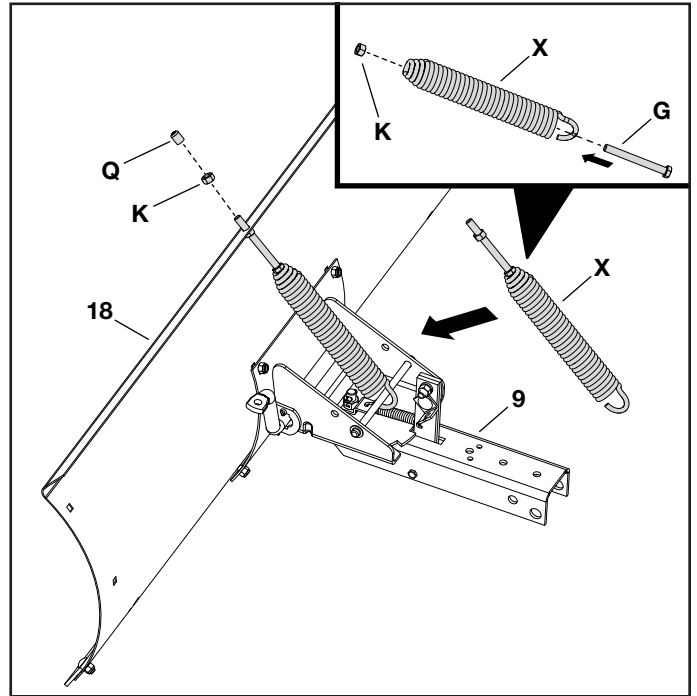

FIGURE 7
STEP 7: (SEE FIGURE 7)
- Insert a hex bolt (G) all the way through the trip spring (X) and place a hex nut (K) one (1) inch onto the hex bolt as shown.
- Place the hook on the end of the trip spring (X) around the shaft of the channel sub assembly (9) with the hook opening facing the blade assembly (18).
- Insert the bolt end of the spring trip (X) into the hole at the center of the blade assembly (18) and tighten the hex nut (K); then secure with another hex nut (K) and tighten.
- Place the vinyl cap (Q) on the end of the hex bolt (K).
The tension of the Blade Adjust Spring may be altered to permit the Blade to tilt forward to bypass solid obstructions. To change the Spring Tension, adjust the Nuts at the upper end of the Spring Bolt. Standing in front of Blade, turn the nuts counterclockwise to relieve tension and clockwise to increase tension. Refer to Figure 7.